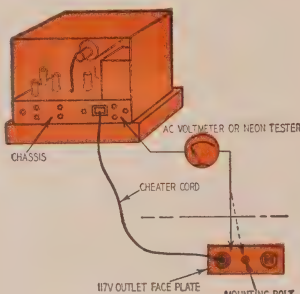

Fig. 1—Checking for shock hazards
2. In series-filament receivers be extremely careful to minimize the possibility of shock. In many of these sets one side of the line is connected to the chassis when the power switch is on. To avoid shock, make the following check before starting to service the set: Turn the power on and with an ac voltmeter (or neon tester with a clip lead attached to one prod), measure the voltage (Fig. 1) from the chassis to any convenient external ground. The metal face plate on the ac outlet may